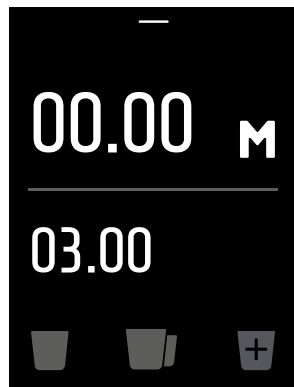

Fig. 5c
- 4 Press the start button with the filter holder (10, Fig. 1) and keep it pressed for the desired time that is shown on the display. The shot progress bar flashes (see Fig. 5c). Once the start button is released, the SweepOut starts. The display shows the time remaining for the SweepOut with the progress bar flashing.